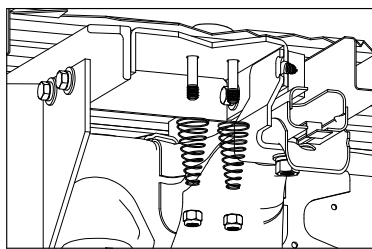

FIGURE H2: Cutaway view from under the bed.
3. **Add Springs.** Place a conical spring over each leg of the U-bolts and secure with a 1/2" lock nut. see Figure H2. Tighten the lock nut until the nut is flush with the end of the U-bolt.